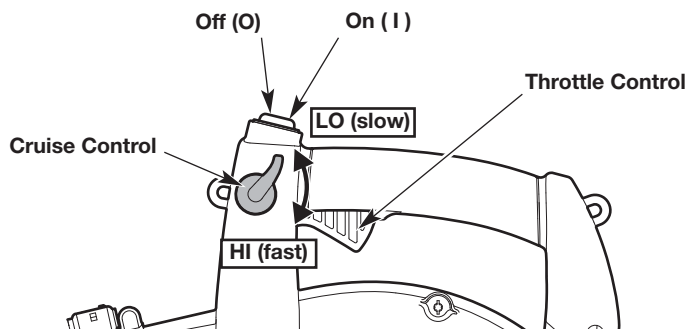
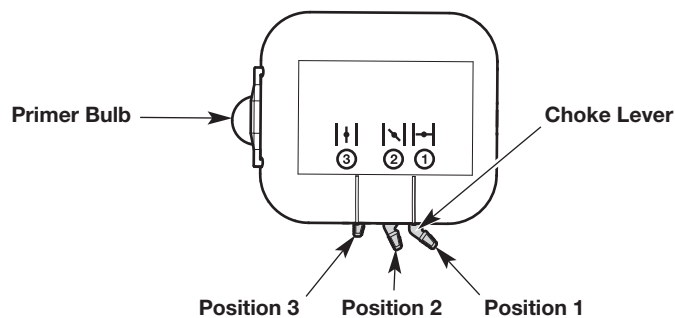

Fig. 6
Fig. 7
NOTE: There is no need to turn the unit on. The On/Off switch is in the ON (I) position at all times (Fig. 6).
3. Slowly press and release the primer bulb **10 times** (Fig. 7).
4. Move the cruise control to the **LO (slow)** position (Fig. 6).
NOTE: Keep the cruise control in the **LO (slow)** position and **DO NOT** squeeze the throttle control until step 10 (Fig. 6).
5. Move the choke lever to **Position 1** (Fig. 7).
8. **DO NOT** squeeze the throttle control. Move the choke lever to **Position 2** (Fig. 7).
10. Squeeze and hold the throttle control or move the cruise control to the **HI (fast)** position (Fig. 6). Allow the engine to warm up for 30 to 60 seconds.
11. Continue to squeeze the throttle control or keep the cruise control in the **HI (fast)** position (Fig. 6). Move the choke lever to **Position 3** (Fig. 7) and continue warming the engine for an additional 60 seconds. The unit may be used during this time.
2. Press and hold the On/Off switch in the **OFF (O)** position until the engine comes to a complete stop (Fig. 6).
NOTE: There is no need to turn the unit on. The On/Off switch is in the ON (1) position at all times (Fig. 6).
NOTE: Keep the cruise control in the **LO (slow)** position and **DO NOT** squeeze the throttle control until step 12 (Fig. 6).
9. **DO NOT** squeeze the throttle control. Move the choke lever to **Position 2** (Fig. 7).
12. Squeeze and hold the throttle control or move the cruise control to the **HI (fast)** position (Fig. 6). Allow the engine to warm up for 30 to 60 seconds.
13. Continue to squeeze the throttle control or keep the cruise control in the **HI (fast)** position (Fig. 6). Move the choke lever to **Position 3** (Fig. 7) and continue warming the engine for an additional 60 seconds. The unit may be used during this time.
2. Press and hold the On/Off switch in the OFF (O) position until the engine comes to a complete stop (Fig. 6).
- Use the cruise control to make continuous operation easier (Fig. 6).